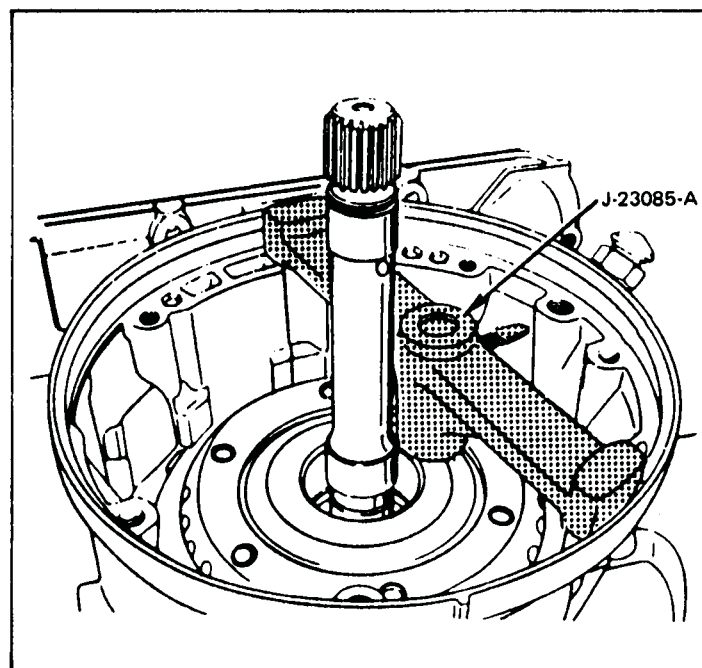

Figure 99
1. Install J-23085-A gaging tool on the main case flange and against the intermediate shaft, as shown in Figure 99.
2. Loosen the thumb screw and position the inner shaft of the gaging tool on the thrust surface of the 2nd clutch housing (See Figure 99).